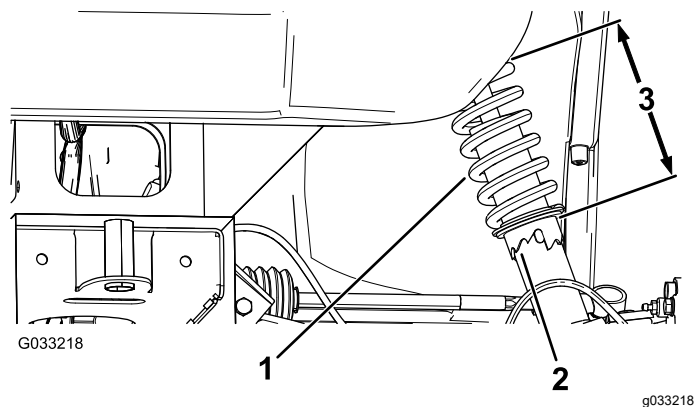

Figure 42
2. If the wheel camber is out of alignment, use the spanner wrench to rotate the collar on the shock absorber to align the wheel (Figure 42).